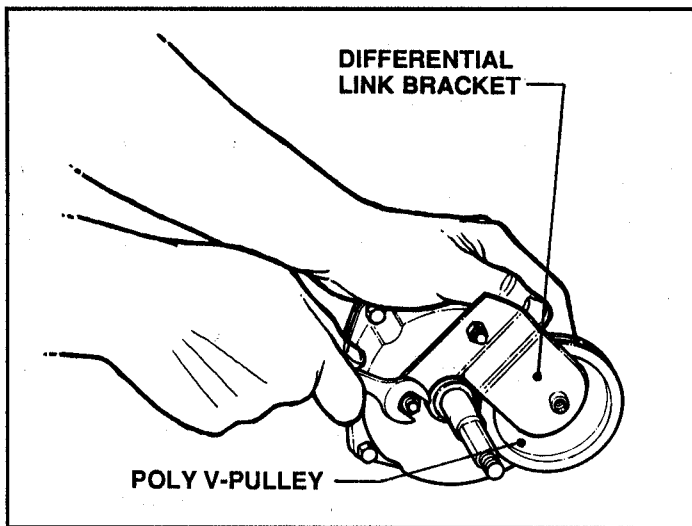

FIGURE 4.2
1. Remove differential bracket and poly v-pulley. See Figures 4.2 & 4.3.